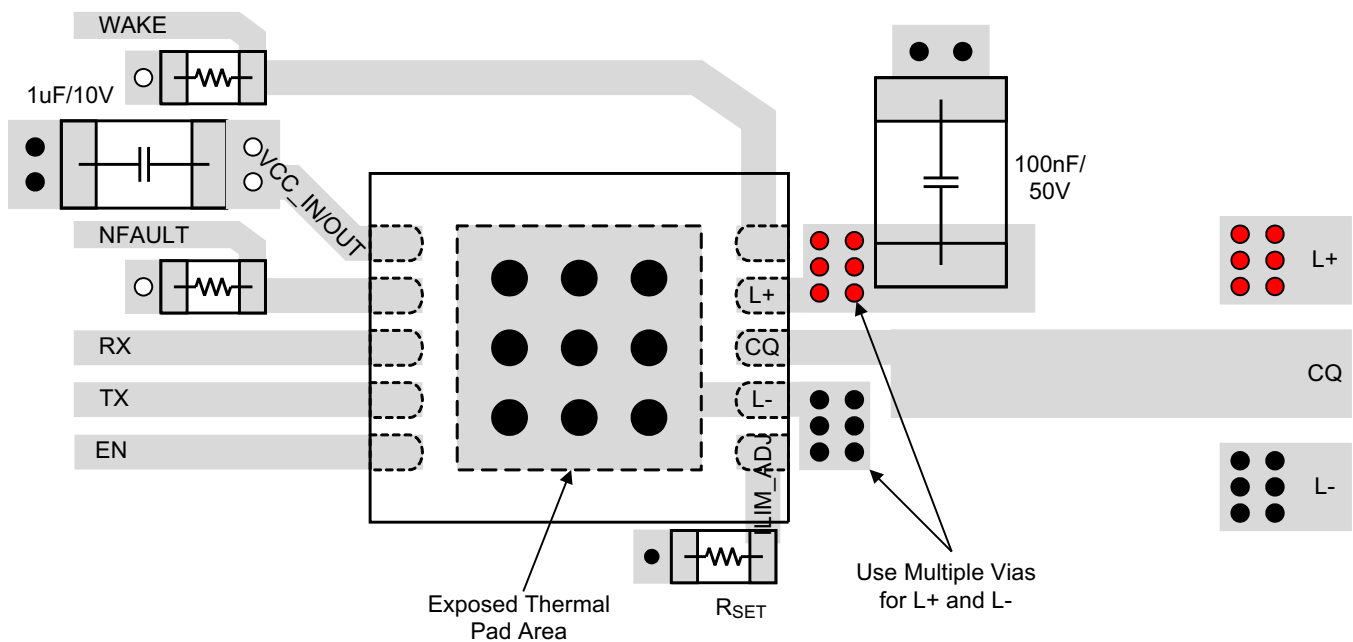

Figure 31. Layout Example
- The optimum placement of the capacitor is closest to the transceiver’s L+ and L- terminals to reduce supply drops during large supply current loads. See Figure 31 for a PCB layout example.